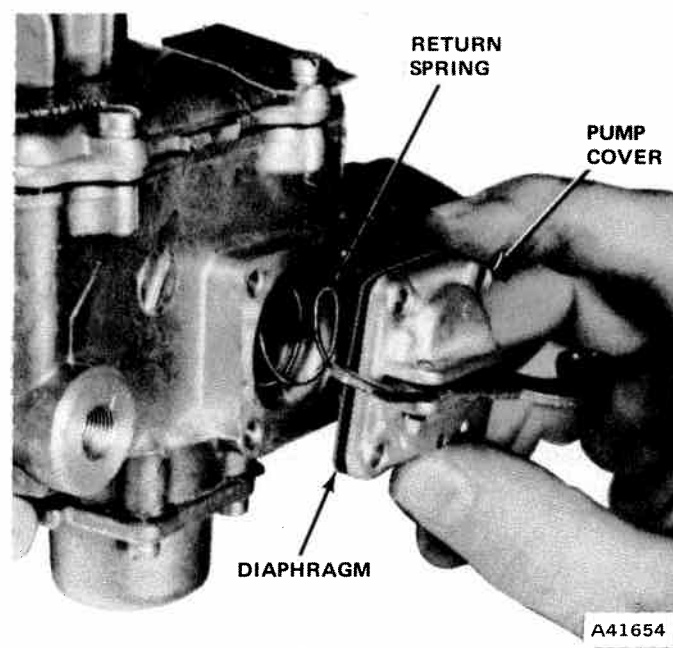

Fig. 4-45 Removing Accelerator Pump Assembly
(15) Remove accelerating pump cover attaching screws. Remove accelerating pump cover, diaphragm assembly, and spring (fig. 4-45).
(16) Remove Elastomer valve, by grasping firmly and pulling out.